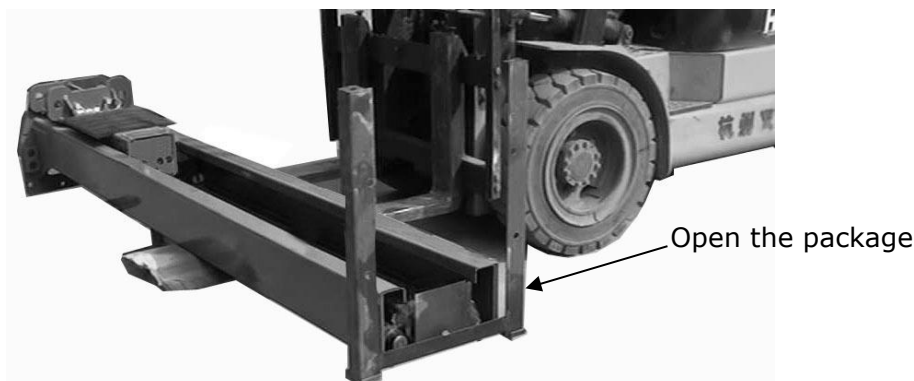

Fig. 11
5. Lift the lower column with a fork lift or hoist, take down the package stand, than take off the lower outer column, take out the parts in the inner column (See Fig. 11).